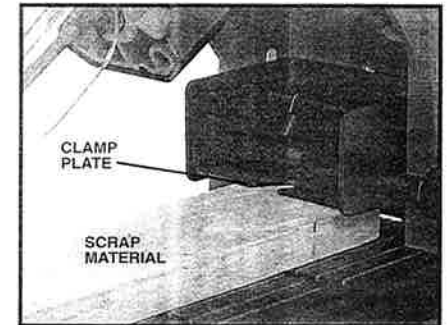

Fig. 7
3. Lift the adjustment lever to raise clamp assembly and insert a piece of scrap material (same thickness as planned work) underneath the clamp plate (see Fig. 7). Seat the scrap material against the drill guide bushing.